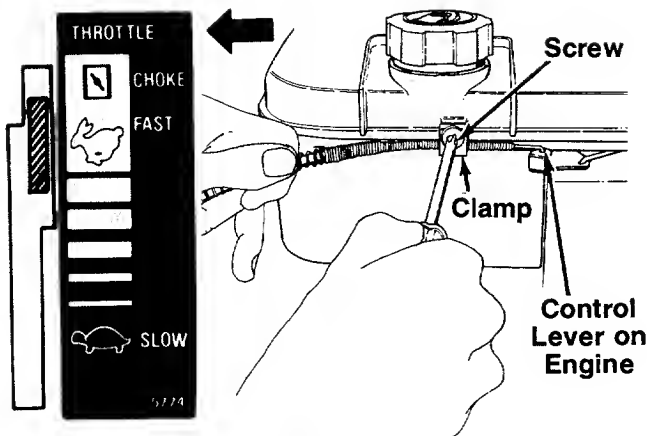

FIGURE 6C.—Models 074R & 084R
1. Push the throttle control lever on the handle all the way forward to CHOKE, then back it off two “clicks” (approximately 5/16”). See figure 6C.
2. The throttle control cable is attached to the upper handle. Route the throttle control cable under the lower handle and inside the handle mounting bracket. Hook the “Z” end of the throttle control cable into the hole in the control lever on the engine. See figure 6C.
3. Using a Phillips screwdriver, remove the screw on the cable clamp shown in figure 6C. Remove the cable clamp and the plate which is beneath the clamp.
4. Push the control lever on the engine as far toward the rear of the engine as it will go. See figure 6C. Pull the throttle control cable toward the rear of the engine to remove any slack in the cable. Secure the cable to the engine in this position, using the cable clamp, plate and screw removed in step 3 (plate goes beneath the cable).